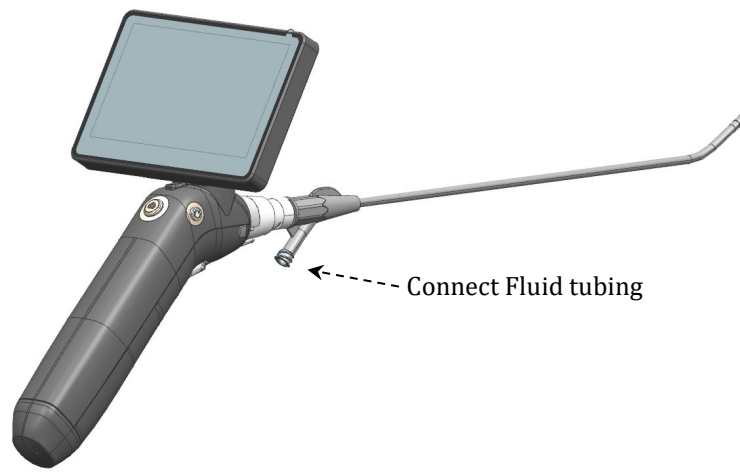

Figure 3: Connect Fluid Tubing
- 5.3.4. Connect tubing from the source of the fluid to the Luerlock connector port (infusion port) on the side of the Uro-V Cystoscope. See Figure 3.